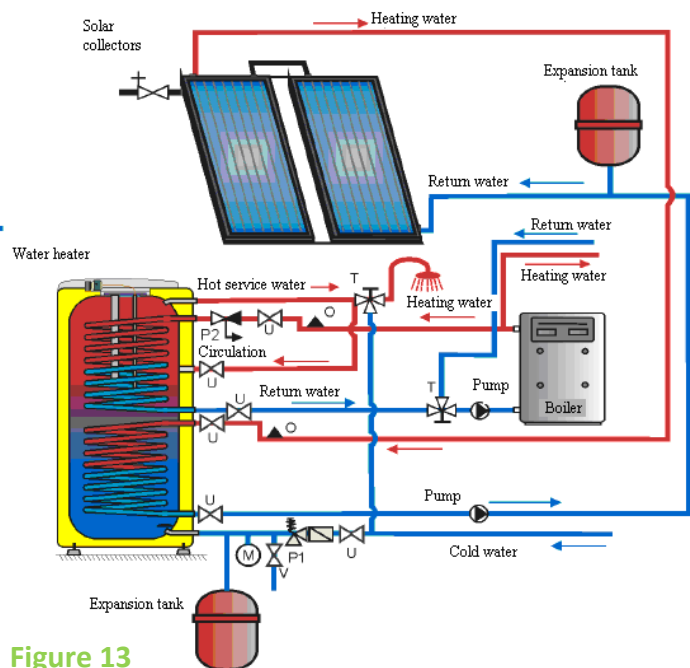

Figure 13
Connecting tanks to plumbing fixtures is shown in (Figure 12, Figure 13, Figure 14, Figure 15). For potential disconnection of the tank, utility water inlets and outlets must be provided with Js 3/4" screw coupling. If the hot utility water (HUW) distribution is equipped with circulation circuit, the reverse pipe is connected to the inlet identified as CIRCULATION. Types 100, 125, 160 NTR and 100, 125, 160 NTR / HV are equipped with a drain outlet. A "T" plumbing with a drain valve has to be mounted in type 200 and 250 NTR(R) on the HSW inlet. The tank shall be equipped with a safety valve to ensure the operation. The safety valve is mounted on the cold water inlet identified with a blue ring. We recommend that the hot water distribution from the heater was as short as possible to minimise heat losses. **Tanks must be provided with a discharge valve** mounted on the cold service water inlet into the heater for potential disassembly or repair.